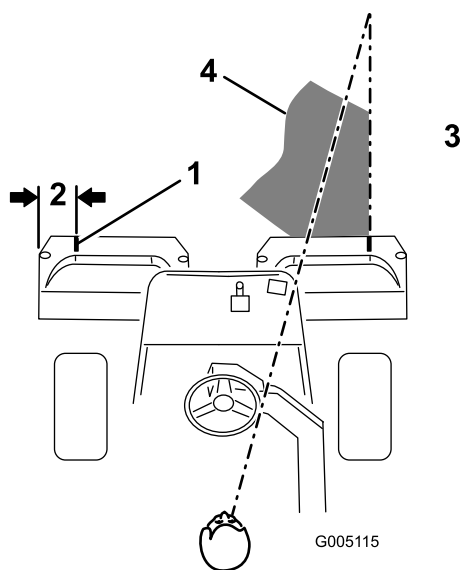
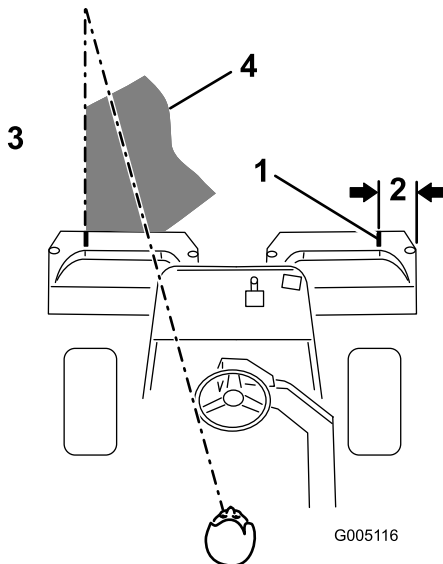

Figure 22
Figure 23
2. Either place a strip of white tape or paint a line onto each basket paralleling the outer edge of each basket (Figure 22).
3. Overlap a minimal amount with the previous cut on return passes. To assist in maintaining a straight line across the green and keep the machine an equal distance from the edge of the previous cut, establish an imaginary sight line approximately 6 to 10 ft (1.8 to 3 m) ahead of the machine to the edge of the uncut portion of the green (Figure 22 and Figure 23). Some find it useful to include the outer edge of the steering wheel as part of the sight line; i.e. keep the steering wheel edge aligned with a point that is always kept the same distance away from the front of the machine (Figure 22 and Figure 23).